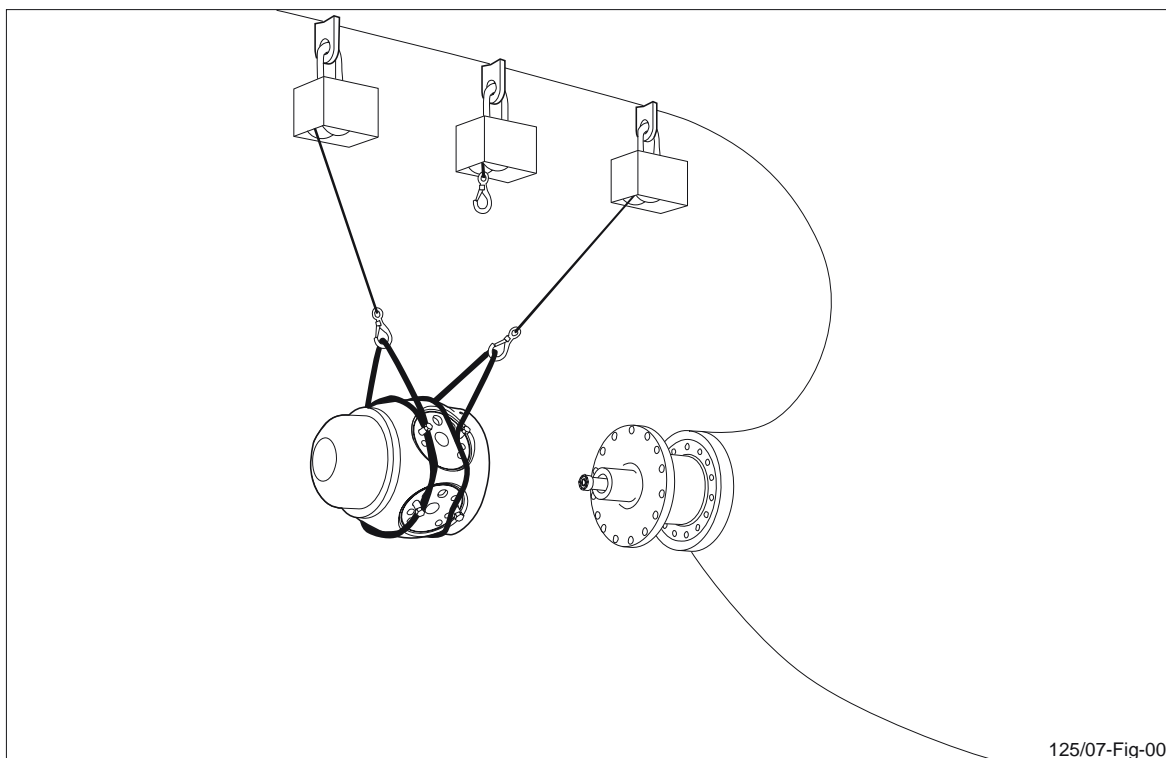

Figure 2 Lifting a small sized propeller hub without blades using soft slings.
- The small sized hubs are lifted by fitting soft slings around the hub. To prevent the soft slings from sliding off the hub, a number of blade bolts must be screwed into position, see figure 2.